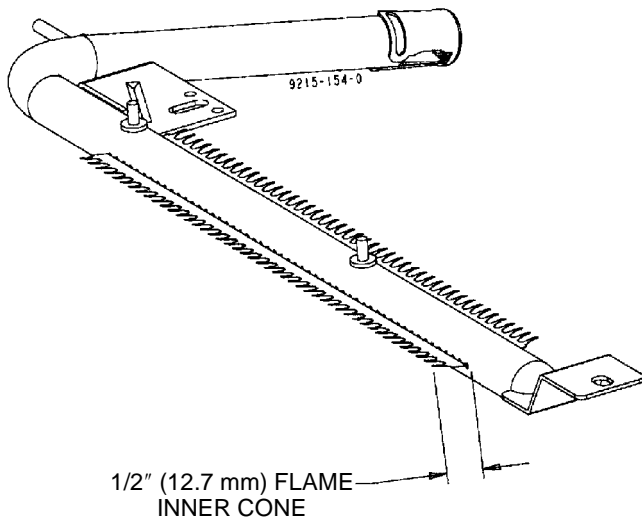

FIGURE 5
a. The approximate length of the flame of oven burner is a 1/2 (12.7 mm) inch distinct inner blue flame, figure 5.